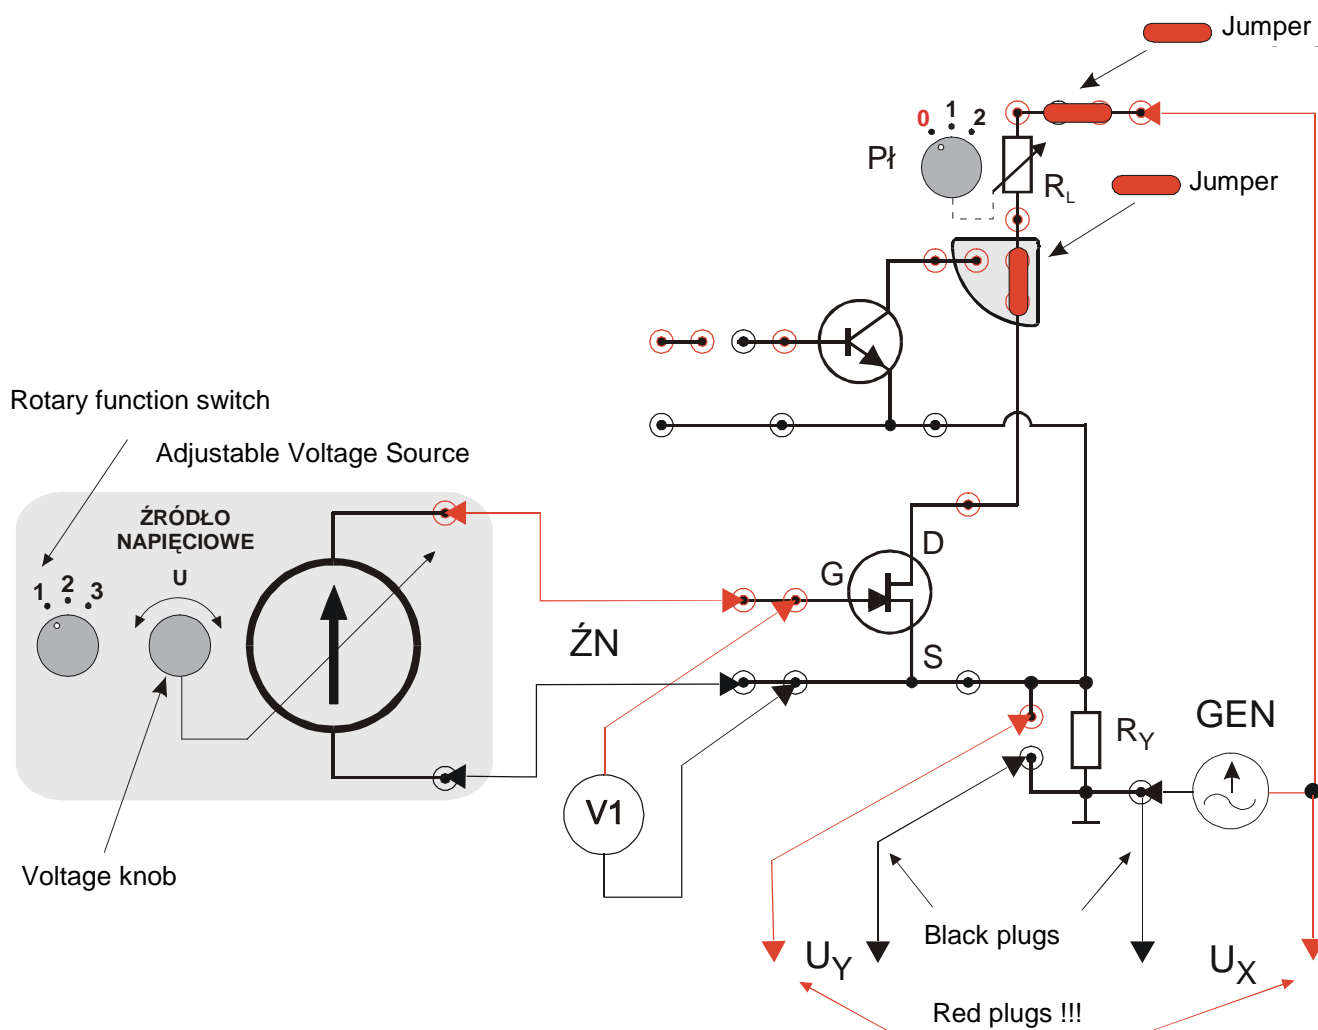

Fig. 7. Diagram of connections for FET dynamic output characteristics.
2. Check out connections according to the diagram given in the Fig.7.
4. Connect the Oscilloscope CH2 input with R_Y resistor (U_Y on Fig. 7) using the BNC-Banana Plug wire. Pay attention on proper connections – black banana plug connector to the ground and the red one to the S terminal of the FET transistor.